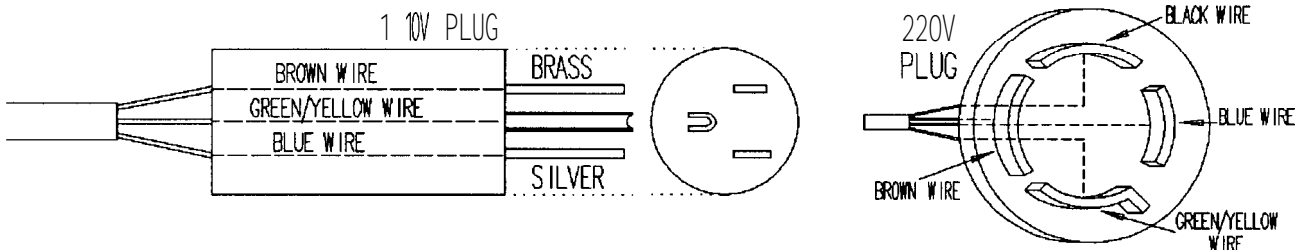

Figure 1 A/C plug color code
11. If the A/C plug is not installed, install it as shown in Figure 1.